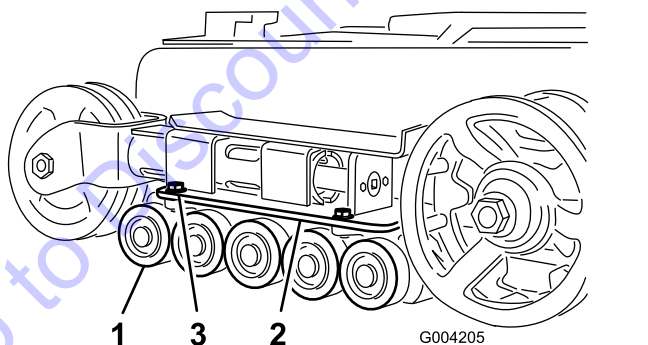

Figure 50
2. Remove the 4 bolts securing each lower track guide which contains the road wheels, and remove them (Figure 50).